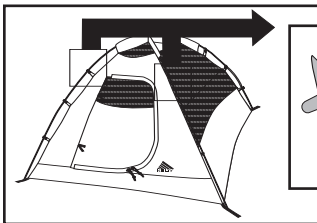
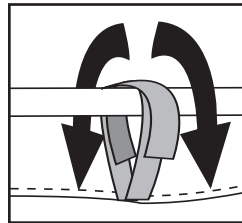

Figure 10A
Figure 10C
10. Insert a brow pole into the grommets on the webbing about 3/4 up the corner seams on either side of the door (Fig. 10A and 10B). Attach the velcro tabs on the underside of the fly around the brow pole (Fig. 10C). Repeat step 10 using the remaining brow pole at the rear of the tent.